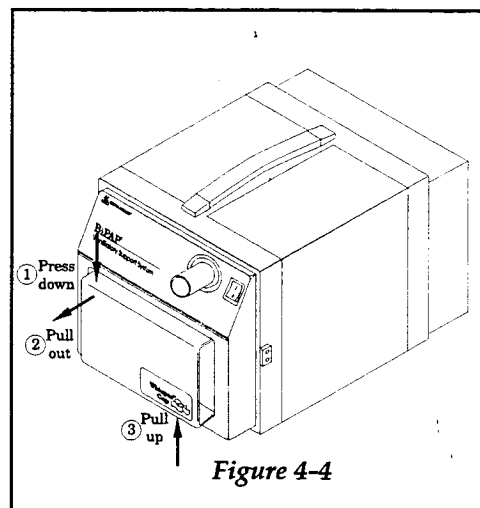
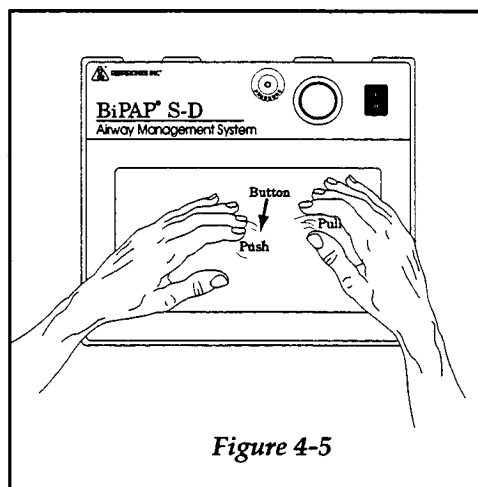

Figure 4-4
Figure 4-5
- Step 1 Turn the BiPAP unit OFF (0) and unplug the electrical cord from the wall outlet and from the back of the unit.
- Step 2 See Figure 4-4. Press down (1) and pull out (2) on the top of the Whisper Cap. You need to press down only about  $\frac{1}{8}$ " to allow the top lip of the Whisper Cap to clear the filter retainer.
- Step 3 Pull up (3) on the bottom of the Whisper Cap until the bottom lip clears the filter retainer.
- Step 4 See Figure 4-5. Locate the button in the center of the filter holder beneath the surface of the filter. Push in on the button and pull the filter out from all four sides of the filter holder.